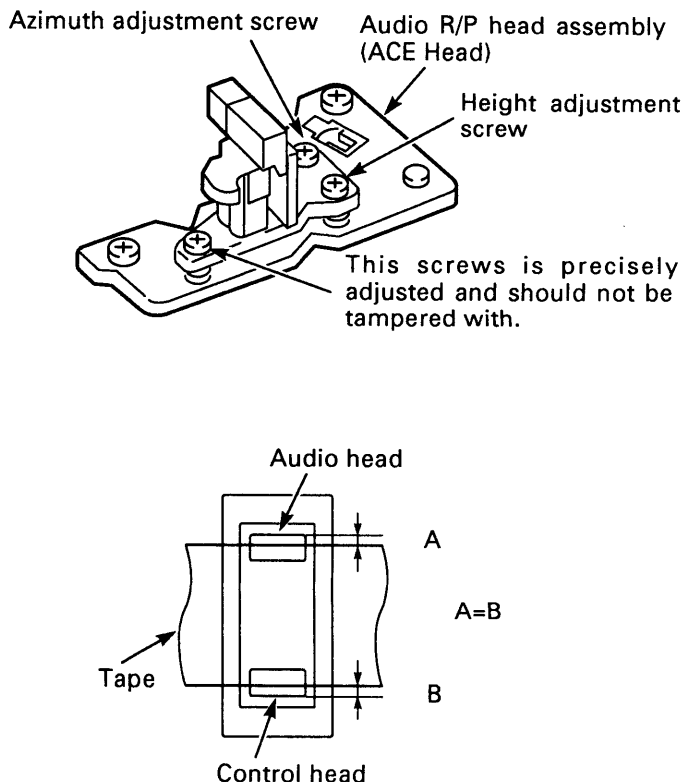

Fig.4-3-5
##### (1) Azimuth adjustment (See Fig.4-3-5)